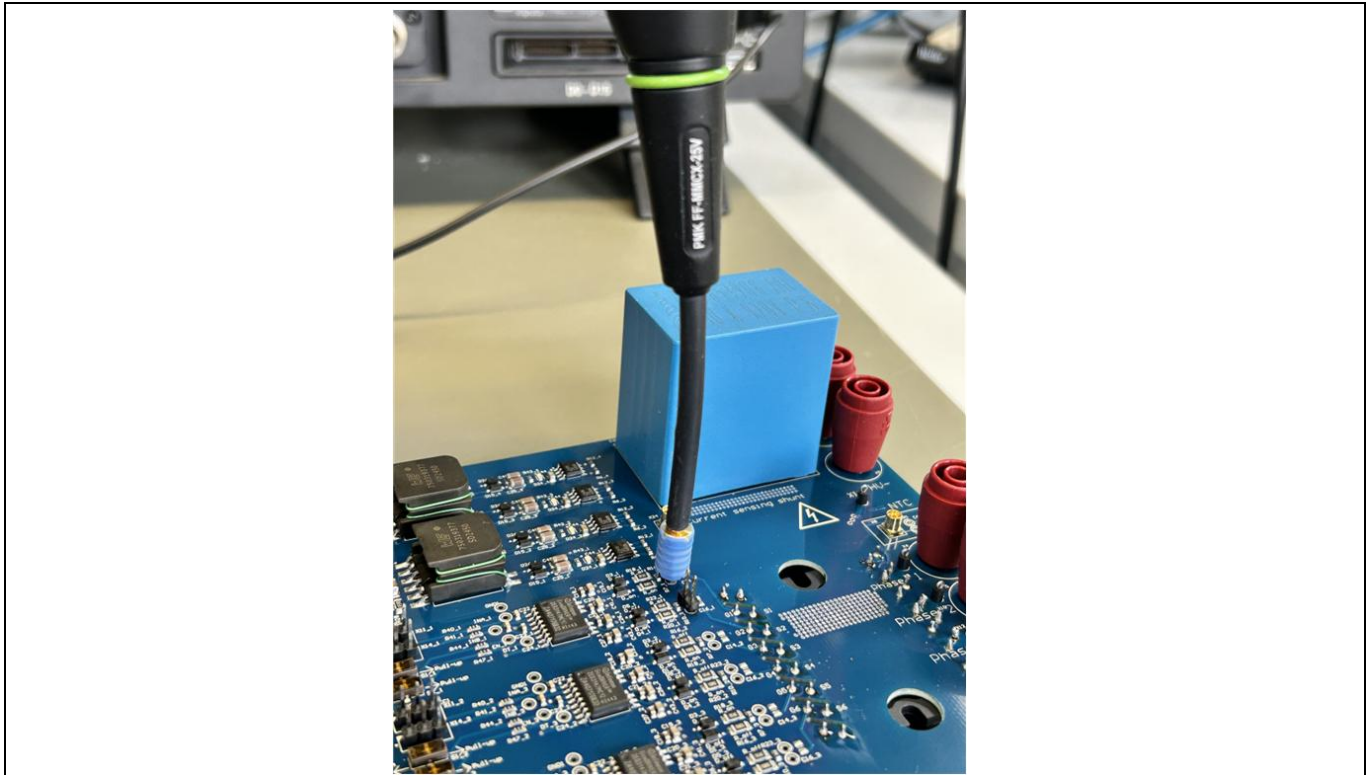

Figure 3 Example for connecting a differential probe to the gate-source test points
1. Connect the low-voltage supply to the banana jacks on the input domain of the board as shown in Fig. 3 (a).
4. Connect the PWM input generator to the board as shown below in Fig. 3 (b). For example, connect the signal to the connector X14_1_2 for the high-side switch of phase 1, and connect the ground of the signal generator to connector X14_1_1.
5. Enable the gate driver of the phases that will be switched. To do this, set the slider S1_xx to position 1, that is to the right-hand side following the orientation in Figure 3. The slider S2_xx can be left in the central position.